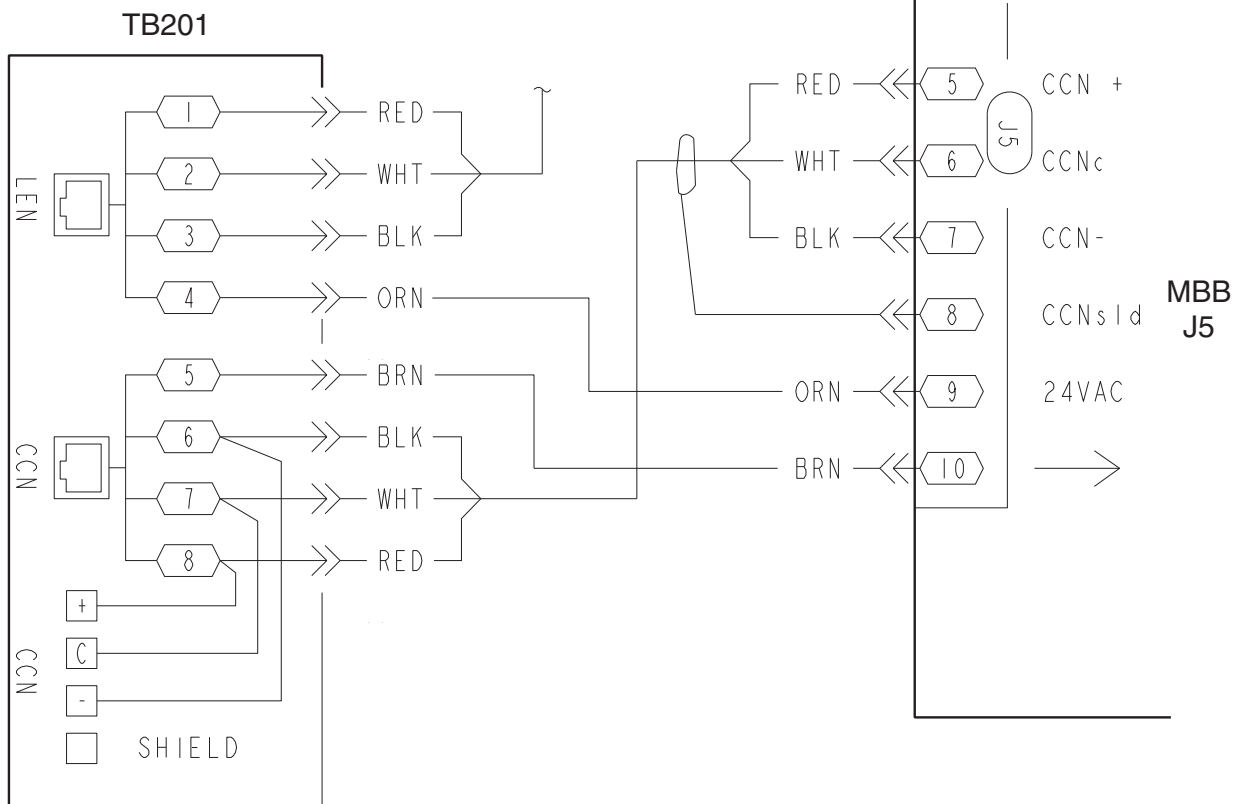

Fig. 67 — CCN Connections
- CCN connections (Fig. 67)
To connect the unit to the network (Fig. 67):
3. Wire the CCN system to the screw terminals on the COMM board as follows (Fig. 67):